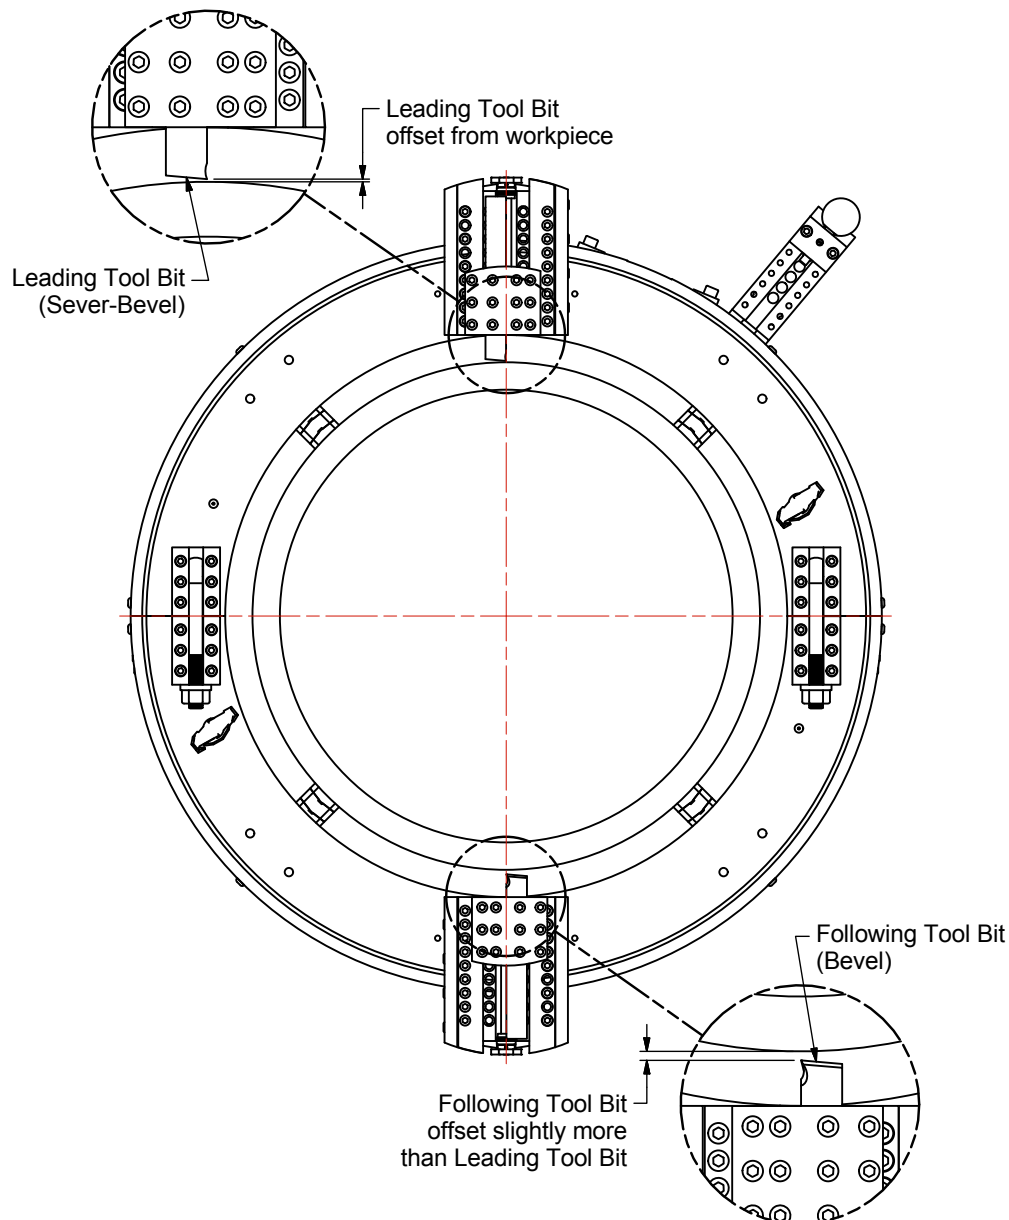

Figure 2-12 – Set Leading/Following Tool Bits
15. Back the following tool bit away from the workpiece slightly more than the leading tool bit. This will allow the leading tool bit to begin the cut before the following tool bit. As the cut is made further tool bit adjustment may be required. See Figure 2-12.